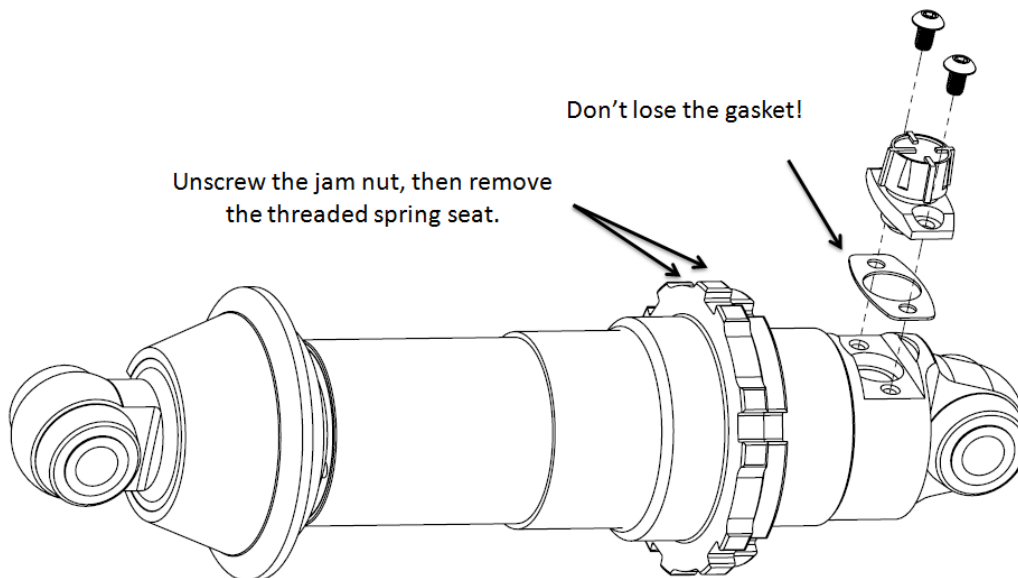

Figure 5. The shock adjustment knob must be removed for installation of the spring.
- 7) Now is a good time to install the coil springs over the shocks. To do so, the knob on the shock must be removed as shown in Figure 5. Unscrew the spring seat and the jam nut, slide on the spring, and re-assemble. Be sure not to lose the gasket behind the knob.